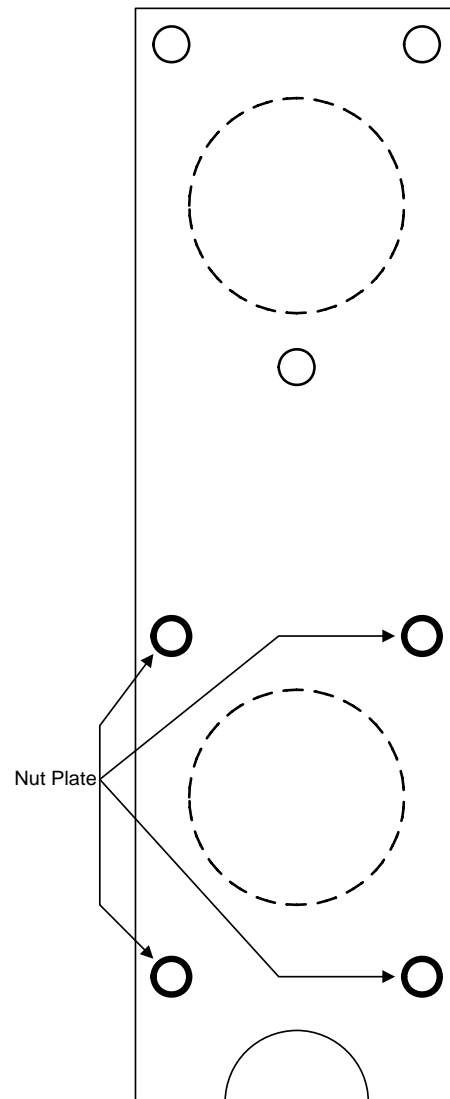

Figure 9
1. Bolt the operator to the mounting plate using four (4) 3/8-16 x 3/4 bolts supplied. These bolts secure the operator to the mounting plate at the locations that have nut plates (Figure 9).
2. Use the remaining hardware, three (2) 3/8-16 x 1 1/4 bolts, three (2) 3/8 washers, and three (2) 3/8-16 nuts to secure the operator to the mounting plate at the three locations without nut plates.